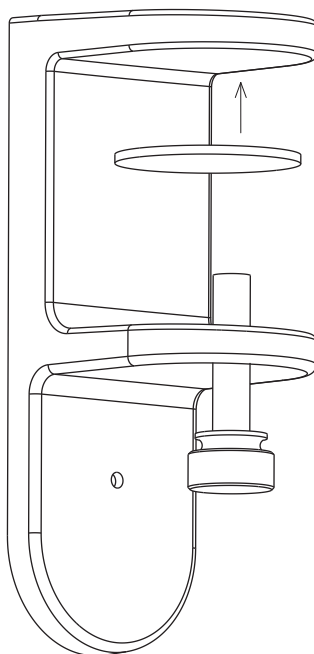

Fig. 1
1. Adhere (1) rubber pad (J) to the underside of top flange of each clamp bracket (C/D) (Fig. 1).